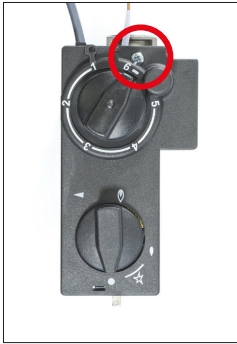
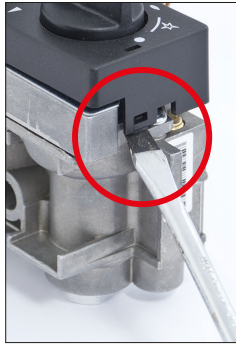

Figure 2
Figure 3
1. Loosen and remove the cover retaining screw (see figure 2). Pry off the cover at the click closure by means of a small, flat bladed screwdriver (see figure 3). Remove the spacer under the cover.